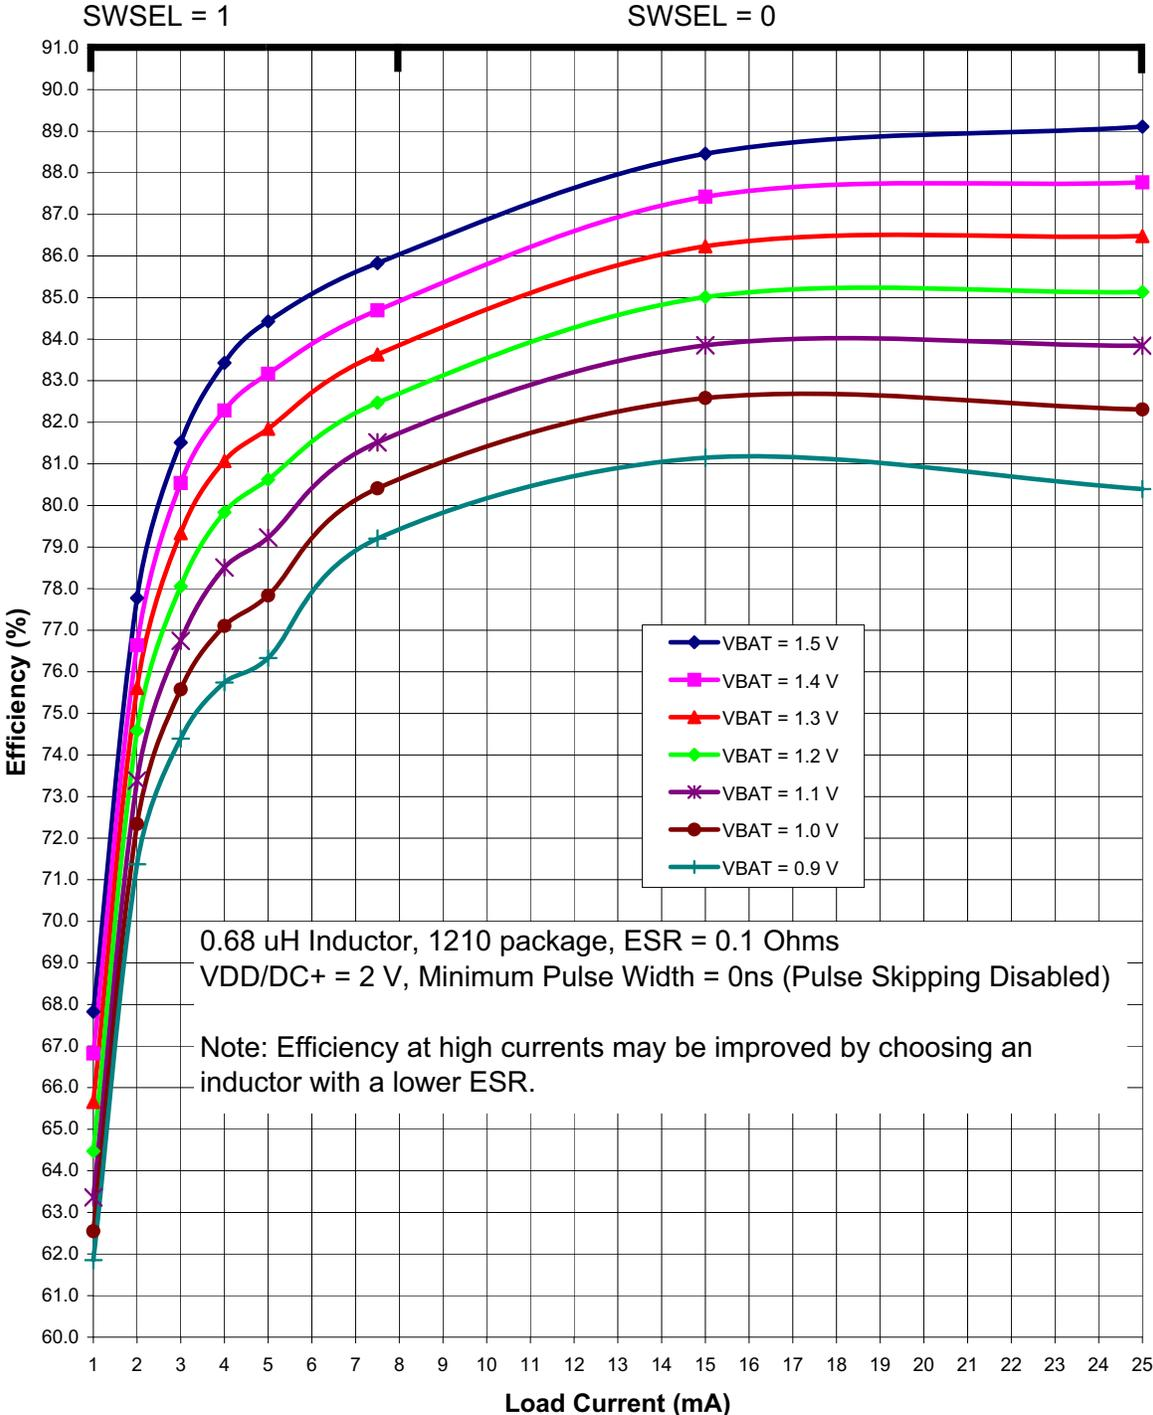
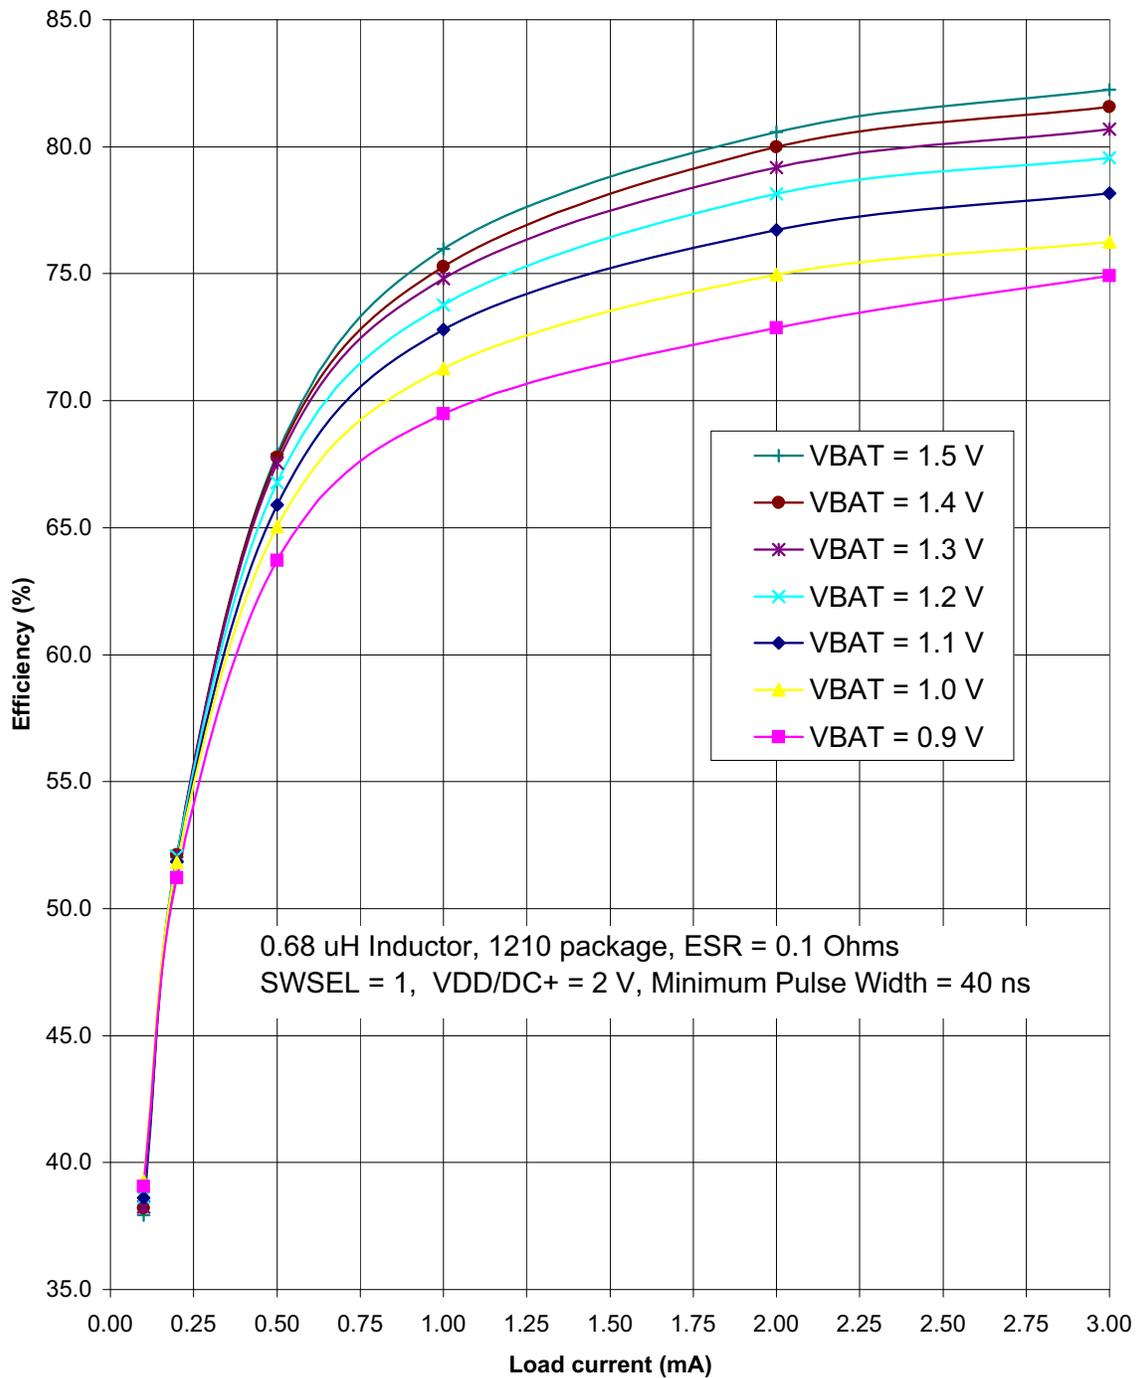

Figure 4.3. Typical DC-DC Converter Efficiency (High Current, VDD/DC+ = 2 V)
Figure 4.5. Typical DC-DC Converter Efficiency (Low Current, VDD/DC+ = 2 V)
The DC-DC Converter Efficiency can be estimated using Figure 4.3–Figure 4.5.
| <ol style="list-style-type: none"> <li>Based on device characterization data; Not production tested.</li> <li>SYSClk must be at least 32 kHz to enable debugging.</li> <li>Digital Supply Current depends upon the particular code being executed. The values in this table are obtained with the CPU executing an “sjmp \$” loop, which is the compiled form of a while(1) loop in C. One iteration requires 3 CPU clock cycles, and the Flash memory is read on each cycle. The supply current will vary slightly based on the physical location of the sjmp instruction and the number of Flash address lines that toggle as a result. In the worst case, current can increase by up to 30% if the sjmp loop straddles a 64-byte Flash address boundary (e.g., 0x007F to 0x0080). Real-world code with larger loops and longer linear sequences will have few transitions across the 64-byte address boundaries.</li> <li>Includes oscillator and regulator supply current.</li> <li>IDD can be estimated for frequencies ≤14 MHz by simply multiplying the frequency of interest by the frequency sensitivity number for that range, then adding an offset of 90 μA. When using these numbers to estimate IDD for &gt;14 MHz, the estimate should be the current at 25 MHz minus the difference in current indicated by the frequency sensitivity number. For example: VDD = 3.0 V; F = 20 MHz, IDD = 4 mA – (25 MHz – 20 MHz) x 0.102 mA/MHz = 3.5 mA assuming the same oscillator setting.</li> <li>The supply current specifications in Table 4.2 are for two cell mode. The VBAT current in one-cell mode can be estimated using the following equation: <math display="block">\text{VBAT Current (one-cell mode)} = \frac{\text{Supply Voltage} \times \text{Supply Current (two-cell mode)}}{\text{DC-DC Converter Efficiency} \times \text{VBAT Voltage}}</math> <p>The VBAT Voltage is the voltage at the VBAT pin, typically 0.9 to 1.8 V.                     The Supply Current (two-cell mode) is the data sheet specification for supply current.                     The Supply Voltage is the voltage at the VDD/DC+ pin, typically 1.8 to 3.3 V (default = 1.9 V).                     The DC-DC Converter Efficiency can be estimated using Figure 4.3–Figure 4.5.</p> </li> <li>Idle IDD can be estimated by taking the current at 25 MHz minus the difference in current indicated by the frequency sensitivity number. For example: VDD = 3.0 V; F = 5 MHz, Idle IDD = 2.1 mA – (25 MHz – 5 MHz) x 0.079 mA/MHz = 0.52 mA.</li> <li>Internal LFO only available on 'F912 and 'F902 devices.</li> <li>Ability to disable VBAT supply monitor only available on 'F912 and 'F902 devices.</li> </ol> |  |                            |  |                            |       |